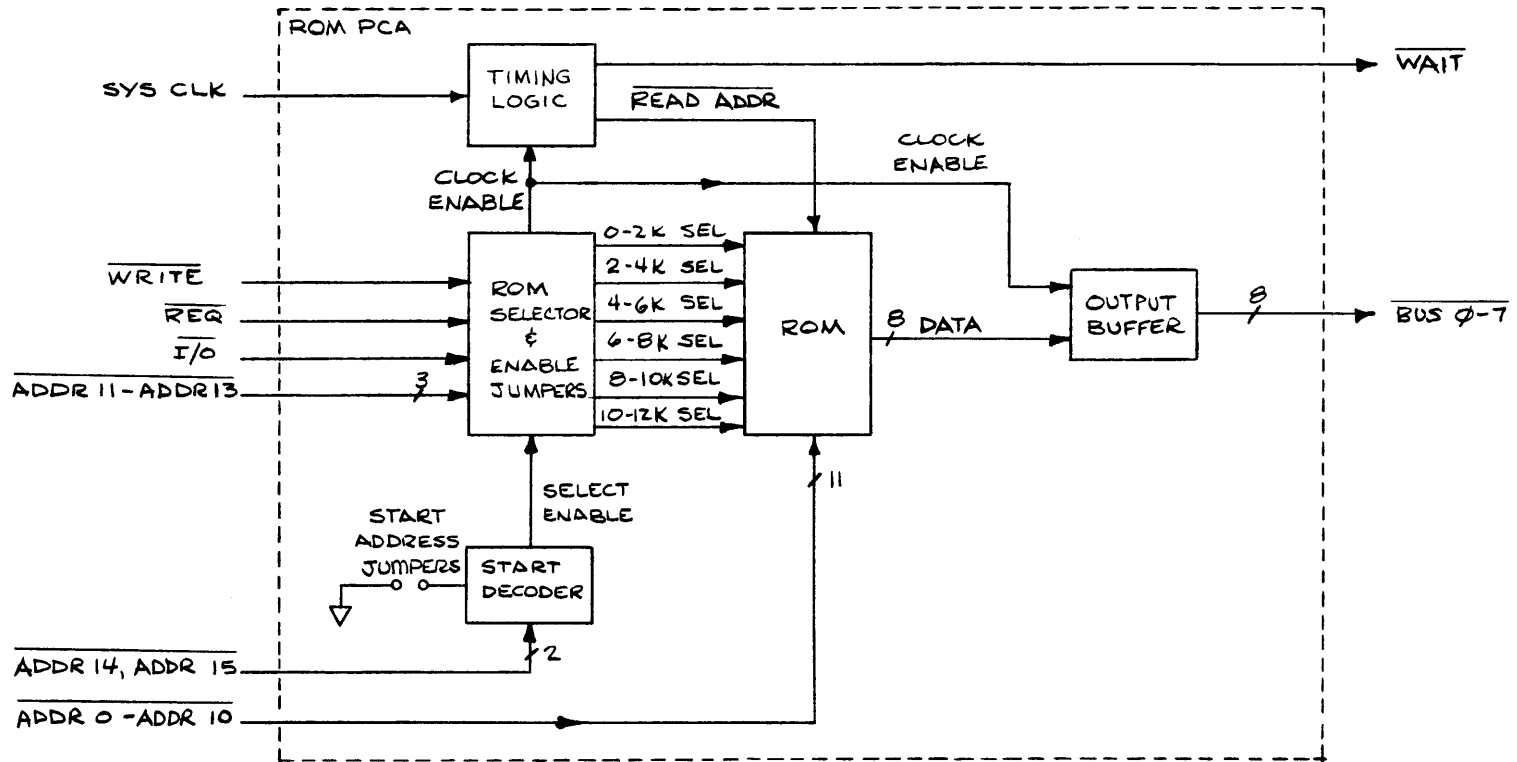
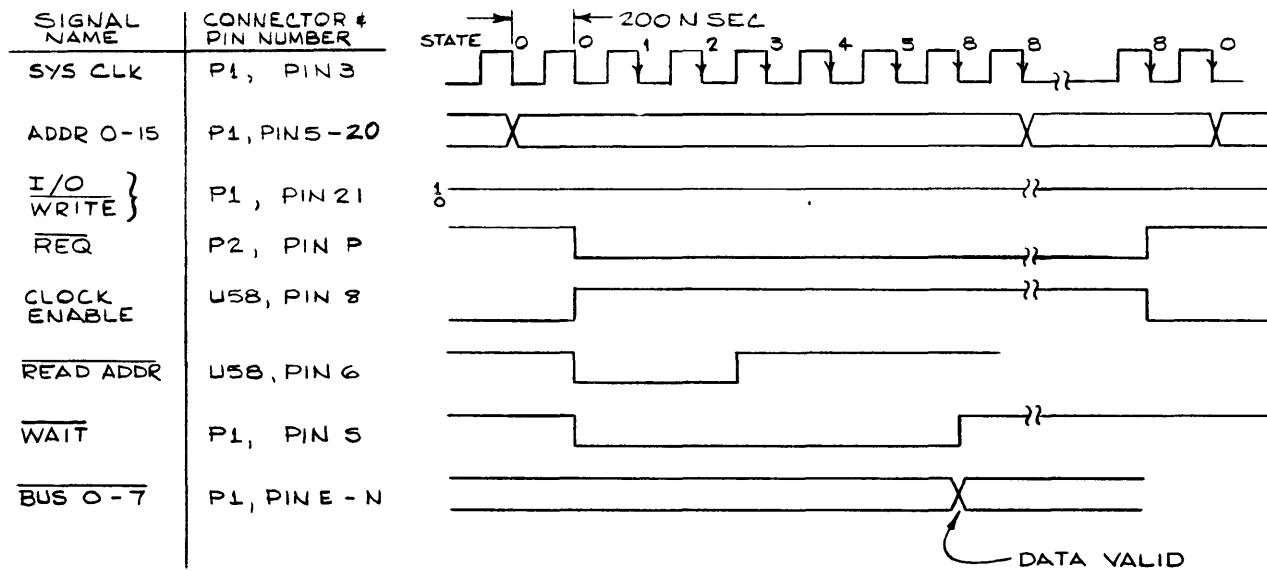
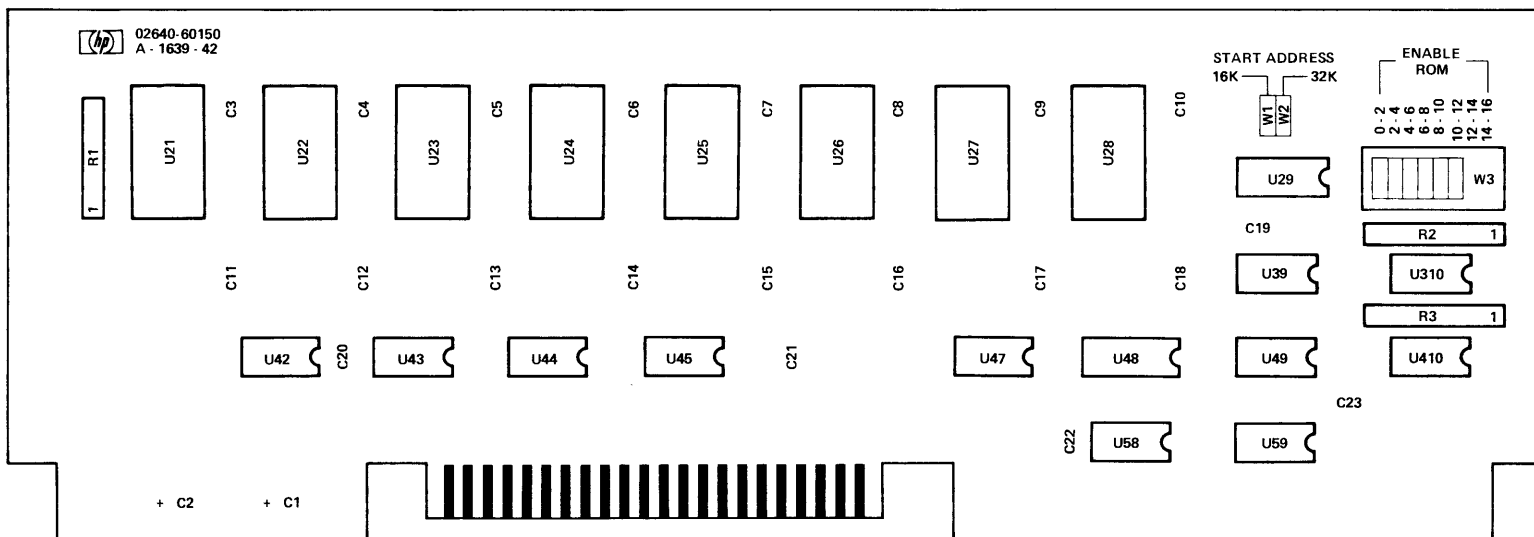

Figure 1
Figure 3
Figure 4
3.0 FUNCTIONAL DESCRIPTION. Refer to the block diagram (figure 1), schematic diagram (figure 2), timing diagram (figure 3), component location diagram (figure 4), and parts list (02640-60150) located in the appendix.
signals \overline{RFO} , $\overline{T/O}$, \overline{WRITE} and $\overline{ADDR11}$ through $\overline{ADDR15}$ generate the $\overline{CLOCK\ ENABLE}$ signal that enables the 93Y1059 counter (U48). The counter advances to the states labeled in the timing diagram in figure 3 on the clock edges indicated by arrows. When \overline{REQ} is asserted, $\overline{READ\ ADDR}$ and \overline{WAIT} go low. State 2 of the counter and the positive half of $\overline{SYS\ CLK}$ terminate the $\overline{READ\ ADDR}$ signal. On the sixth clock, the counter is preset to state 8 and \overline{WAIT} is terminated. By that time ROM data byte ($\overline{BUS0}$ through $\overline{BUS7}$) is valid. When \overline{REQ} is dropped, $\overline{CLOCK\ ENABLE}$ is terminated and the output buffer is disabled.